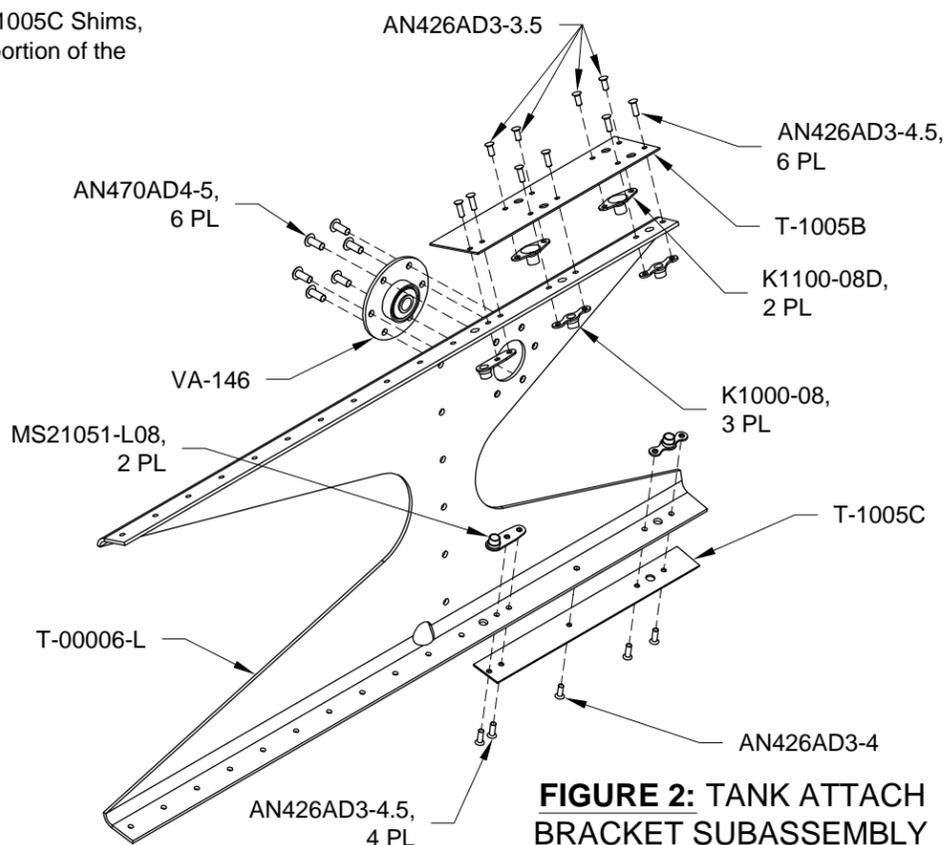

FIGURE 2: TANK ATTACH BRACKET SUBASSEMBLY
Step 4: Final-Drill #19 all .161 [4.1 mm] diameter holes in the T-00006-L & -R Tank Attach Brackets. Deburr the #19 holes. See Figure 2.
Step 5: Final-Drill #30 and attach the VA-146 Flange Bearing, K1000-08, nutplates, T-1005B & T-1005C Shims to the T-00006-L Tank Attach Bracket as shown in Figure 2.